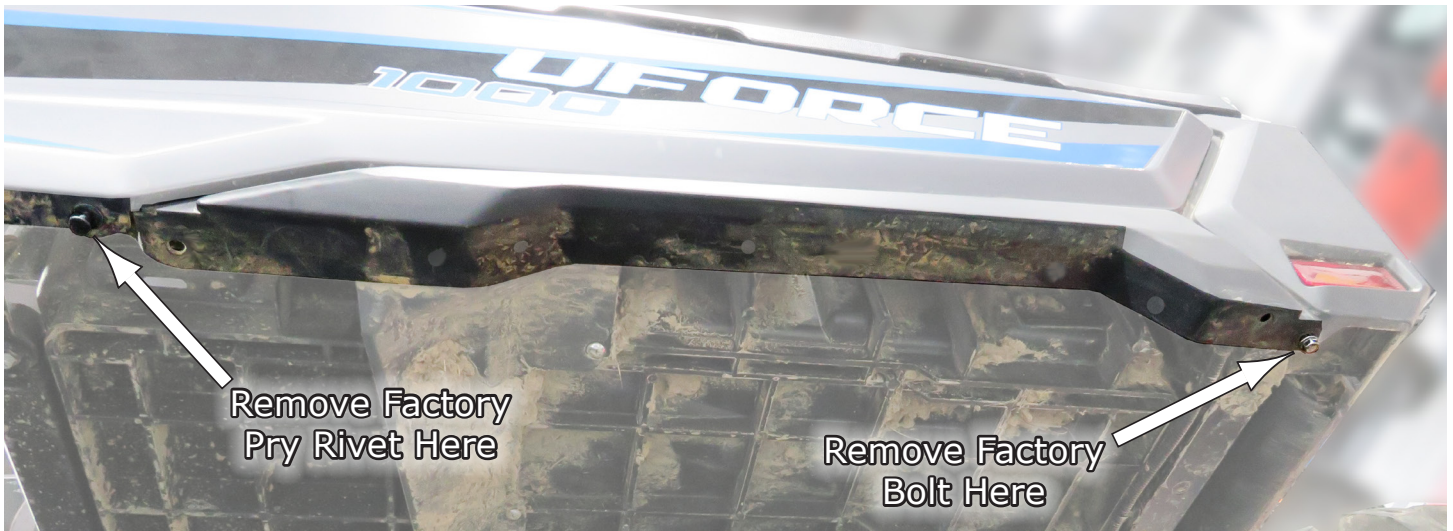

Fig.4
4.Next, you'll work on the rear flares. There are two (2) pieces to each rear side flare. We will show installing the Driver's side rear. The first thing you need to do is remove the rear bolt and the front Pry Rivet. **Fig.4** shows these items.